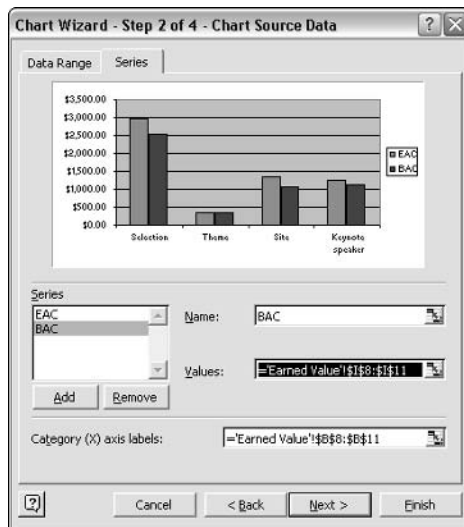

Figure 14-14: Chart the data by rows.
2. Click Next to open the second Chart Wizard dialog box, as shown in Figure 14-14. In this dialog box, select Rows for the Series in option.
3. Click the Collapse Dialog button at the right edge of the Data range box, which is shown in Figure 14-14, to hide the Chart Wizard so that you can select the task that you want to chart from the worksheet.